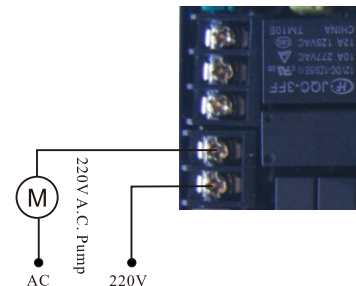
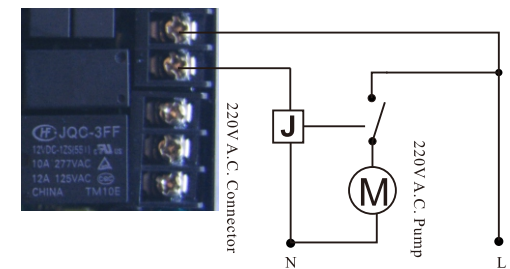

Figure 3-7 Wiring of Booster Pump on Inlet
Figure 3-8 Wiring of Booster Pump on Inlet
**Instruction:** If inlet water pressure is less than 0.15MPa, which makes backwash or brine drawing difficult, a booster pump is suggested to be installed on inlet. Control mode is b-01. When system in regeneration cycle, booster pump opens, the wiring refers to Figure 3-7. If the booster pump current is bigger than 5A, system needs to install a contactor, the wiring refers to Figure 3-8.